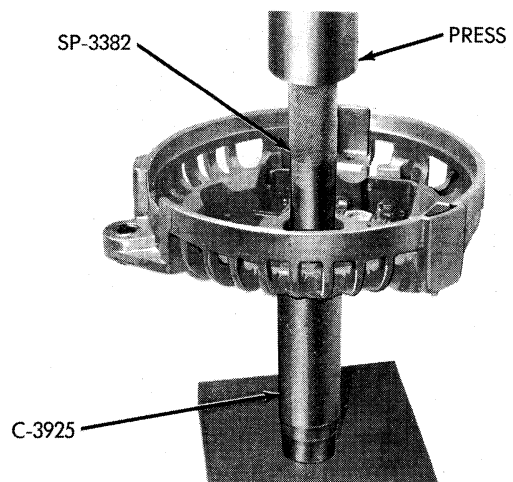

Fig. 25—Removing Rectifier End Shield Bearing
(5) The needle roller bearing in rectifier end shield is a press fit. If necessary to remove rectifier end shield needle bearing, protect end shield by supporting shield with Tool C-3925 when pressing bearing out with Tool C-3770A (Fig. 25).